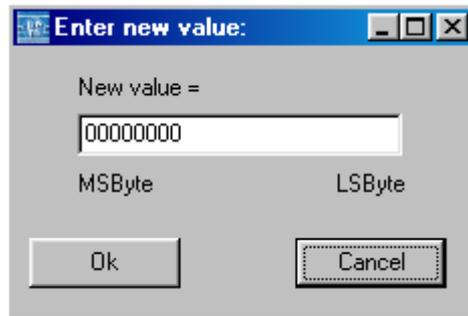

Figure 4 Enter new value
1. Select a Tag Selection -> EM4450 menu (see Figure 4 EM4450 Communication Frame)